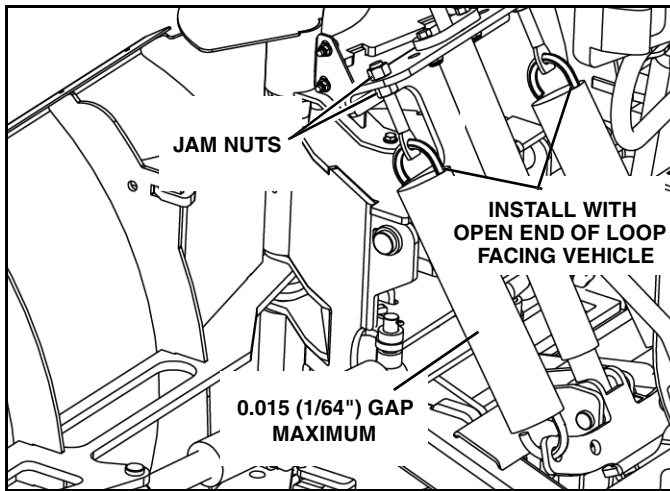

Figure 1-7
3. Check to make sure that the springs are installed as illustrated with open end of top loops facing vehicle. (See Figure 1-7).
4. Loosen the lower jam nut on each eyebolt. (See Figure 1-7).